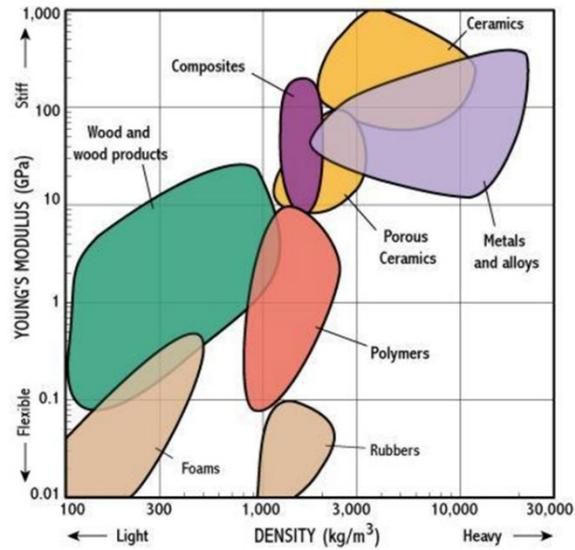

Figure 3 - Stiffness of materials
- Figure 3 shows material stiffnesses from highest to lowest, bottom to top